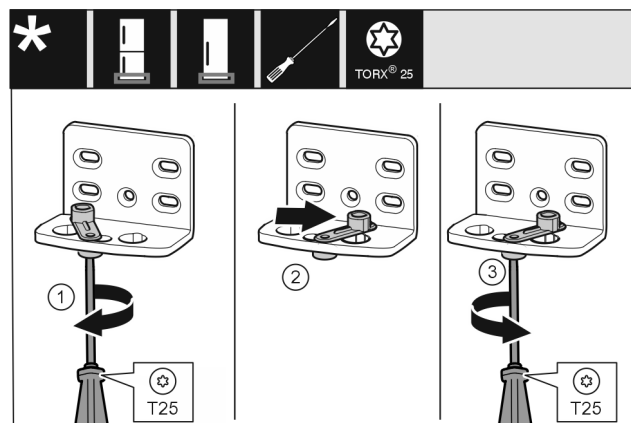

Fig. 15
- ▶ Loosen the screw Fig. 15 (1) with the screwdriver.
- ▶ Lift the door closing mechanism Fig. 15 (2) and turn it 90° to the right into the hole.
- ▶ Tighten the screw Fig. 15 (3) with the screwdriver.